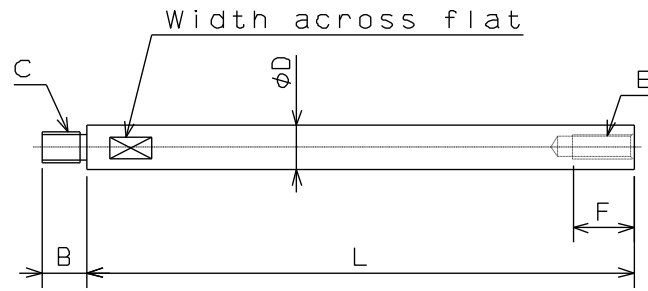

Fig.20
The dimension L in Fig.20,21 is determined from the distance A between the cylinder adapter and the back plate.
- Keep the dimension D in Fig. 20 for the draw bar and a material with the tensile strength 380MPa (38kgf/mm2) or more must be used.